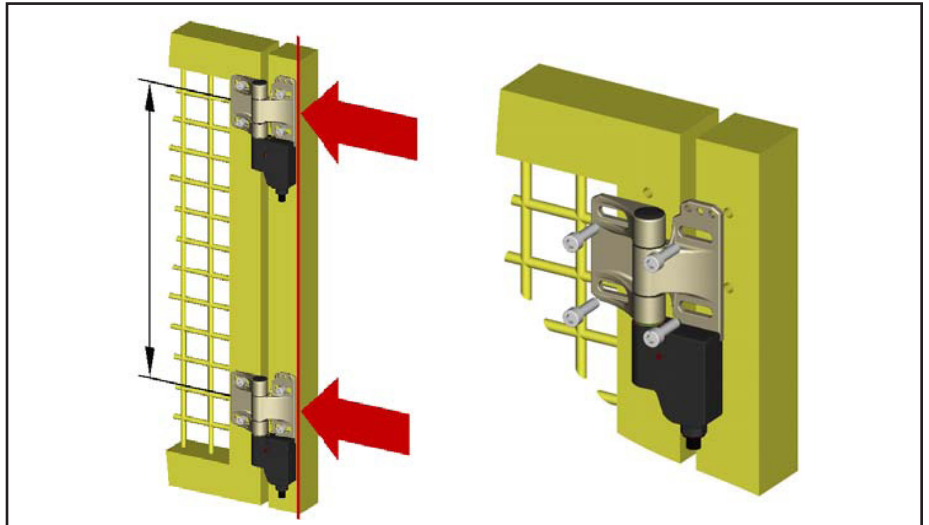

Figure 1. Hinge switch installation
1. Verify that the hinge switches (and blind hinges, if used) are properly mounted and that the guard or gate swings freely throughout its range of motion without binding. If binding is noticed, repeat the mechanical installation procedures above. See Figure 1.